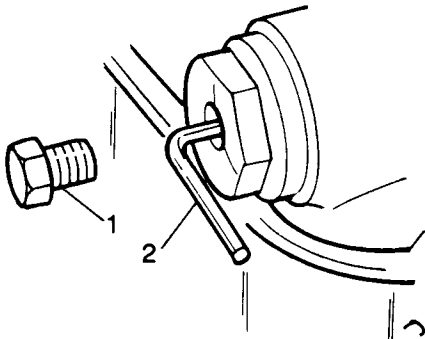

Fig B4.105
(4) Refer to Fig B4.105. Retract the timing chain tensioner by removing the chain tensioner adaptor screw (1), fitting a 3,17 mm allen key (2) and turning the key 90° clockwise.